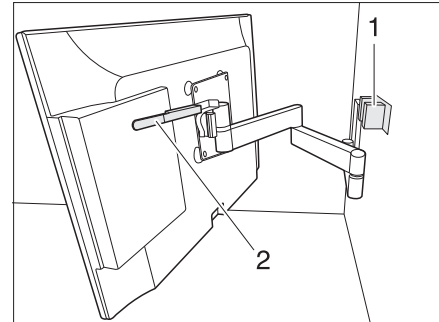

Fig. 8 Holder with jointed arm
- Swivel the flat screen back to its initial position and let it latch into the latch (Fig. 8, 1).